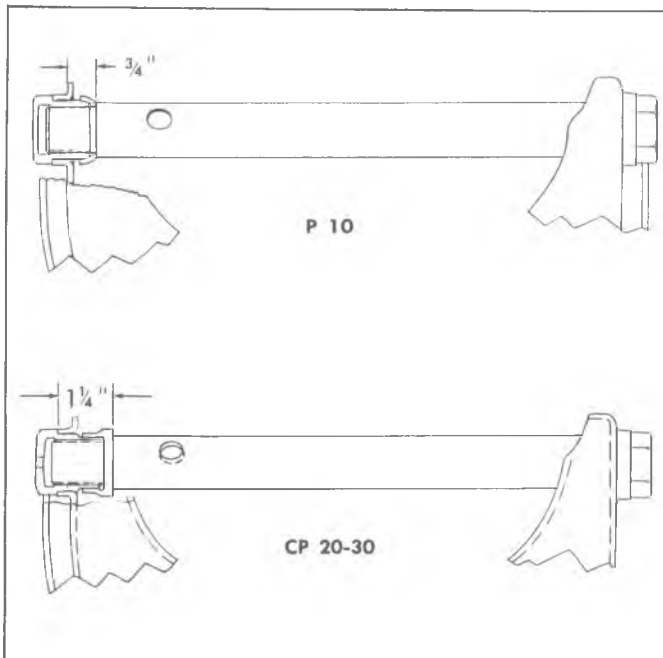

Fig. 31—Positioning Lower Control Arm Shaft (Steel Bushings)
3. Start new bushings on shaft and into control arm. Adjust shaft until it is centered in control arm, then turn bushings in and torque to specifications. Check shaft for free rotation. Figure 31 shows correct final positioning of shaft.